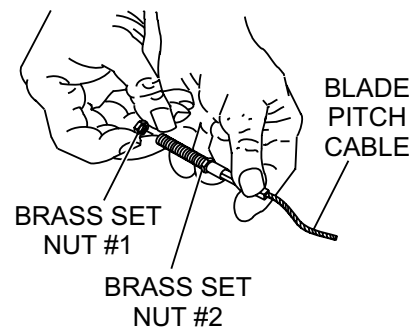

Figure 11. Blade Pitch Cable
3. Remove brass set nut #1 from the blade pitch cable end as shown in (Figure 11).
- Thread brass set nut #2 (Figure 11) towards the cable as far as possible.